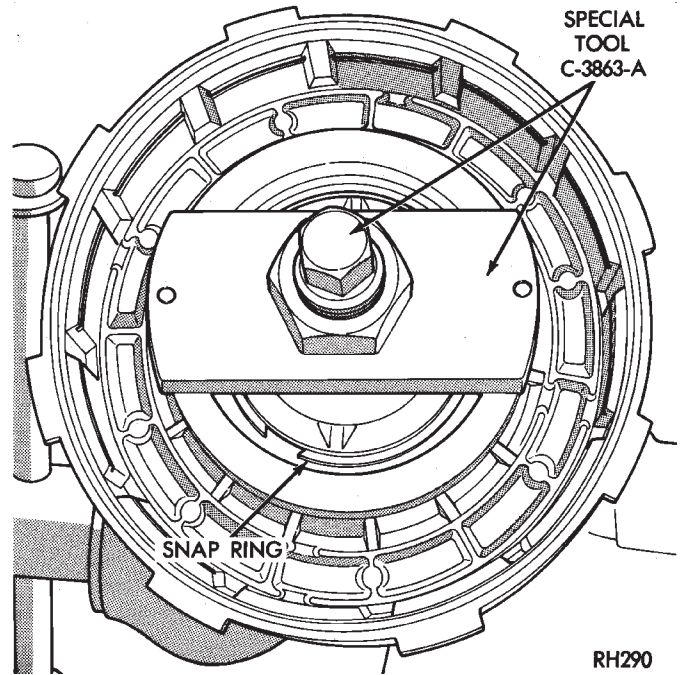

Fig. 62 Removing Front Clutch Spring Retainer Snap Ring
- (2) Compress clutch piston retainer and piston springs with Compressor Tool C-3863-A (Fig. 62).
- (3) Remove retainer snap ring and remove compressor tool.
- (4) Remove clutch piston springs. **Note number and position of piston springs for assembly reference.**